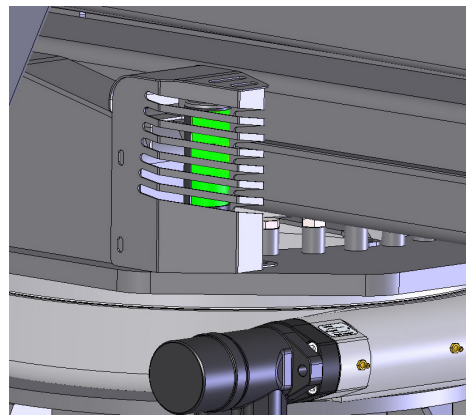

Fig 3.10
- Check the green lamp on the turntable, it must be switched on, to confirm that the boom is in central, low and retracted position (Fig. 3.10).
To retract the stabilizers, check that the green light on the turntable (Fig. 3.10) is lighted on. Turn the key 2 of fig. 3.1 on stabilizer symbol, use the accelerator lever part. 6 of fig. 3.4 and the lever from 1 to 4 in the upward direction of the stabilizers until the stabilizers are fully retracted.
To go back to rest position, retract the extension completely, close the jib, straighten the cage eventually rotated, put the chassis on axle rotating the turntable and lower with the first boom until the green light turns on (Fig. 3.10).